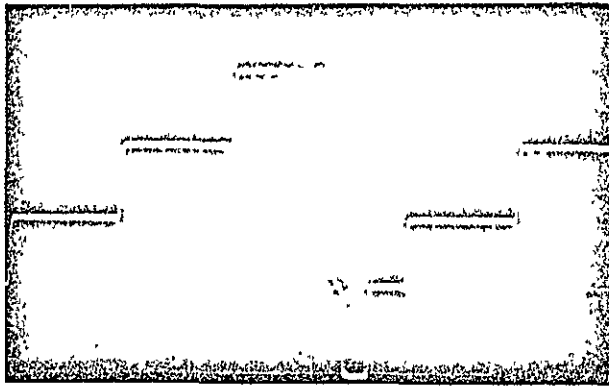

Figure 3-2. SPLITTER V/A INPUT 3-step test signal with no interleaved audio
3. Monitor the signal at the front panel SPLITTER V/A INPUT test jacks. The level should be 1.0 V pp (refer to Figures 3-2, 3-3 and 3-4). Observe the waveform at the SPLITTER V/A INPUT test jacks; note whether a PAM (Interleaved) pulse is present in the waveform. One of the three conditions shown in Figures 3-2, 3-3 or 3-4 should exist.
#### 3.3.2.2.1 Splitter V/A Input, No Interleaved Audio (Refer to Figure 3-2)